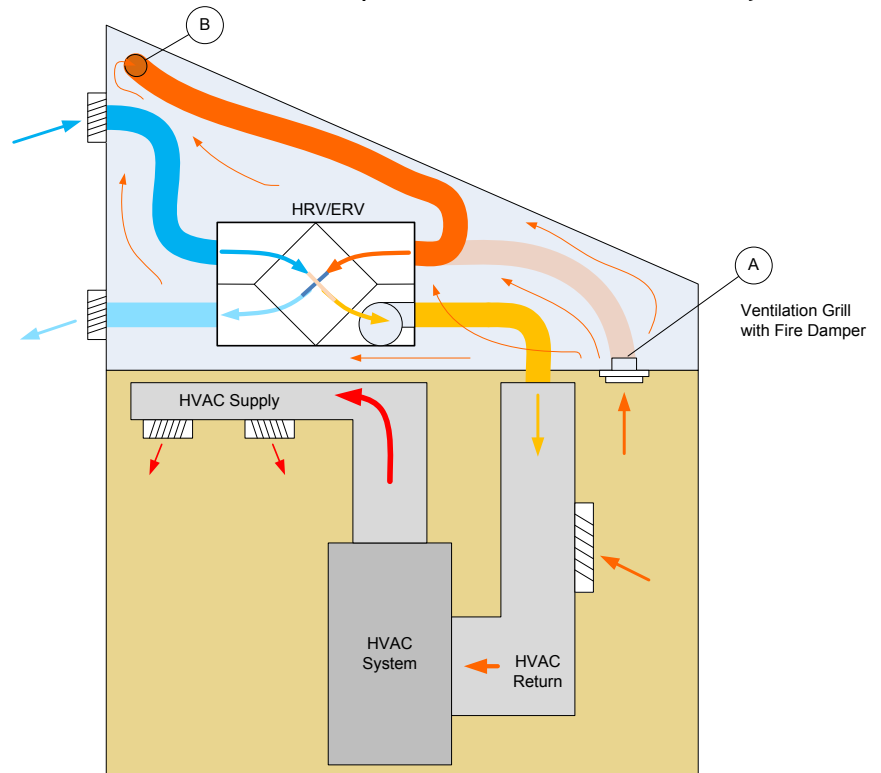

FIGURE 9 - Extended Ventilation using HRV/ERV System
For extended ventilation, a smaller exhaust-only system may be used where the outlet of the exhaust only system is positioned in a safe location. Another option is to use a heat recovery ventilator (HRV) or energy recovery ventilator (ERV) installed inside the containment area, which is an example of an energy-efficient means to provide extended ventilation (shown in Figure 9). If this option is utilized, the exhaust line is disconnected from the vent opening (A), a fire-damper grille is installed on the opening, and the exhaust line is positioned in the attic (B) far from the disconnected vent. Read and follow the HRV/ERV manufacturer's recommendations if this extended ventilation option is utilized. This configuration can provide extended ventilation for several days after which the contractor re-installs the exhaust duct when the extended ventilation is complete.